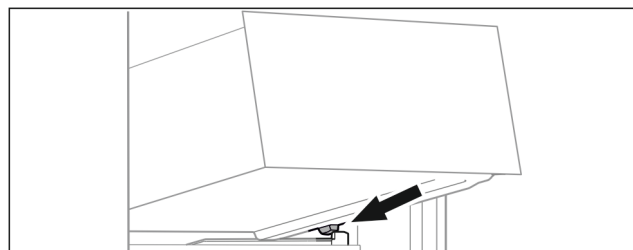

Fig. 58
- ▶ Place drawer at an angle behind the stoppers on the moulded rib. (see Fig. 58)